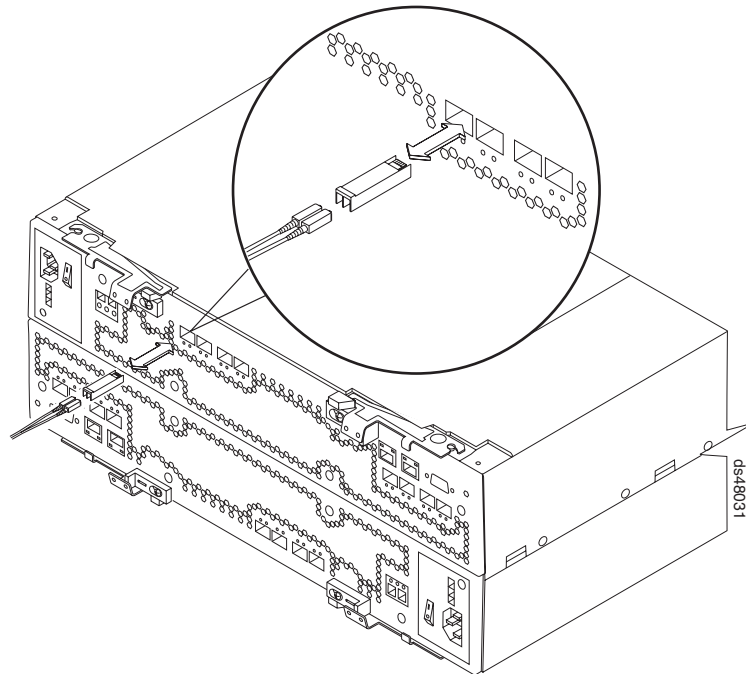

Figure 60. Installing an SFP module and LC-LC cable in a DS4800
1. Install an SFP module in the drive mini hub port on the back of the DS4800 Storage Subsystem, as shown in Figure 60 on page 87.